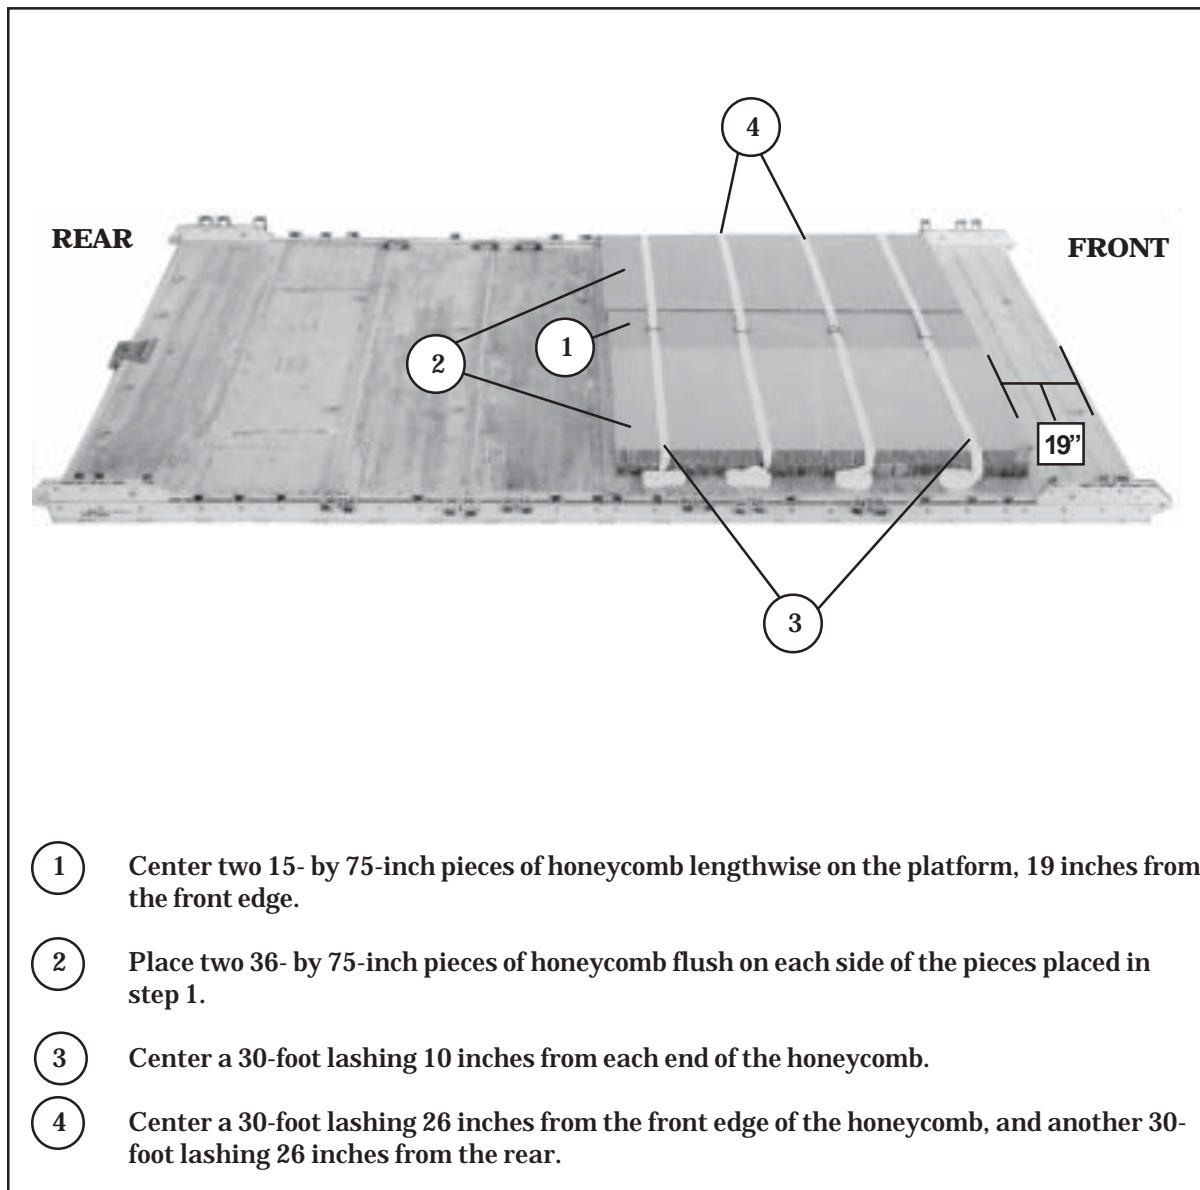

Figure 5-27. Honeycomb for First Ammunition Stack Prepared and Placed
5-35. Build the honeycomb stack for the first stack of ammunition and place it on the platform as shown in Figure 5-27. Build the stack for the second stack of ammunition as shown in Figure 5-27. Set the second honeycomb stack aside.
- 9 Position a second honeycomb stack 17 inches from the rear edge of the platform. Pre-position four 30-foot lashings on the honeycomb as shown in Figure 5-27, steps 3 and 4.